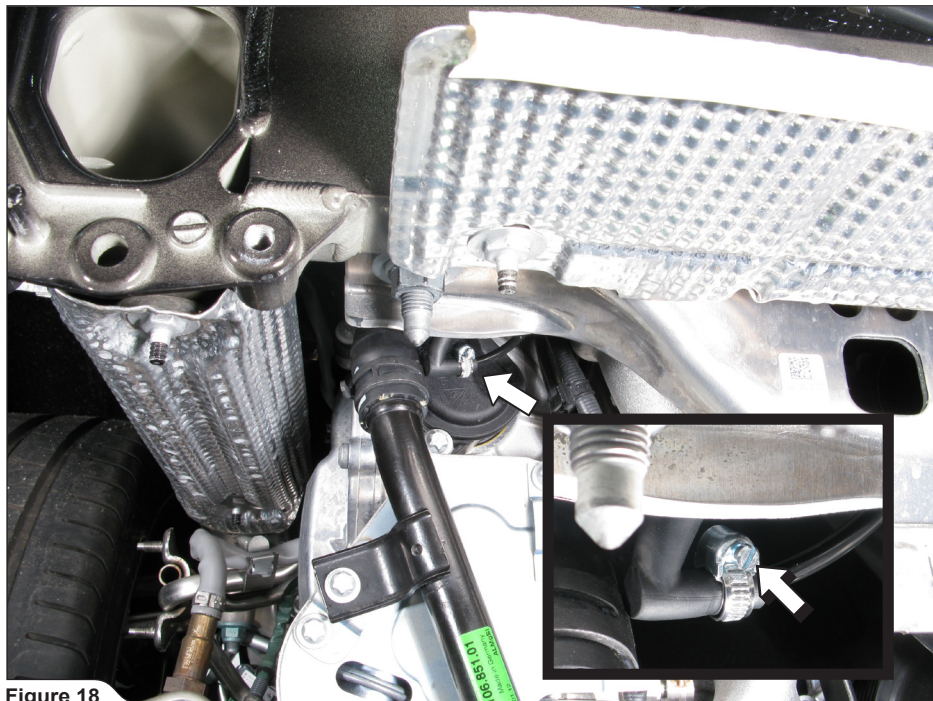

Figure 18
3. **For vehicles with non-sports original exhaust system only:** assemble the Akrapovič pvc vacuum tubes into the original rubber vacuum outlets and secure the connections, using tape clamps from Akrapovič installation kit (**Figure 18, 19**).